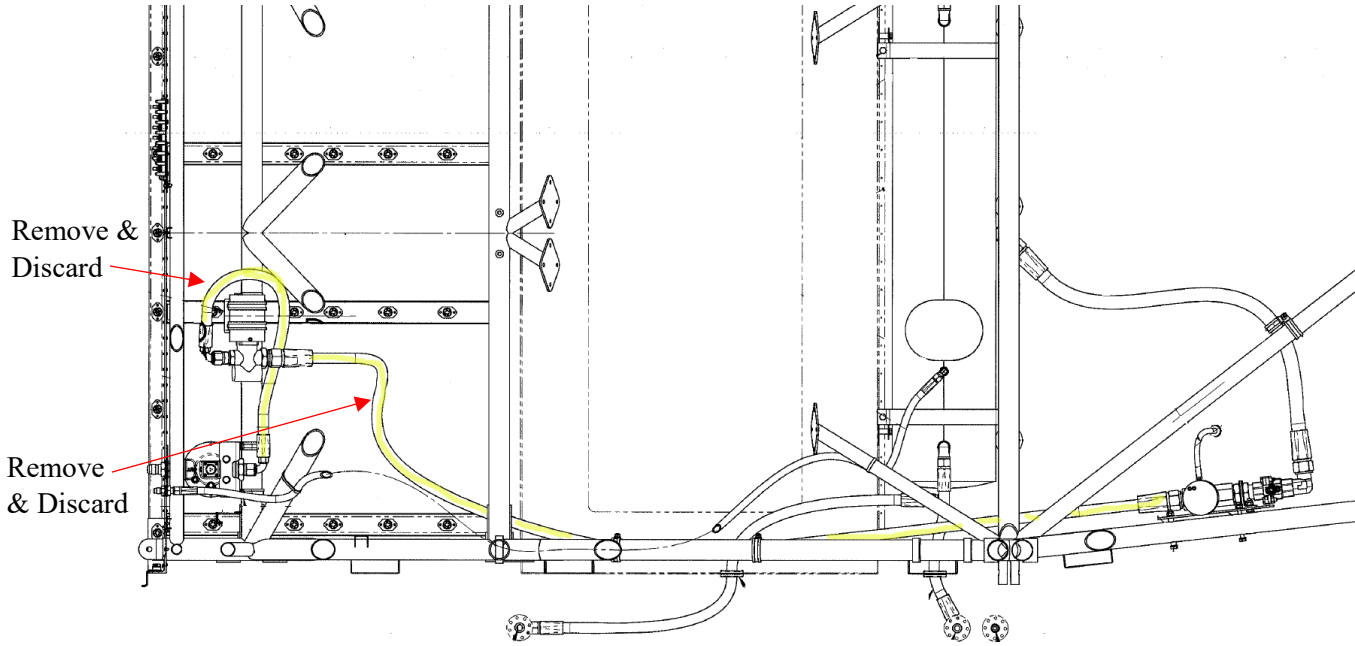

Figure 72-4
- 5) After removing the main fuel pump, remove the hose connected from the pump to the fuel filter and discard. Disconnect the hose connected from the main fuel pump to the emergency fuel pump and discard. See Figure 72-4.